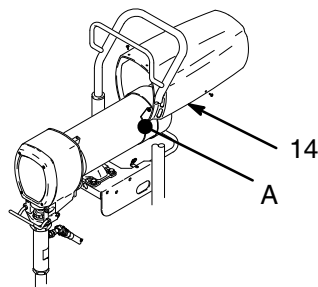

Fig. 8
1. Remove motor cover (14) and both inspection covers (A). See Fig. 8.